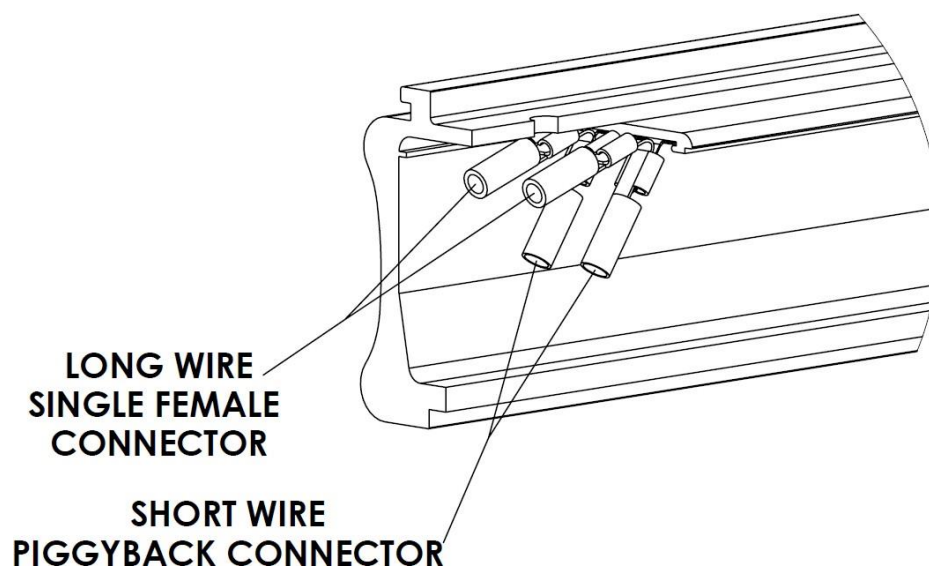

Figure 63: **Long Wire Female Spade Connectors Attached to the Male Terminal of the Piggyback Connector**
10. Connect the long wire female spade connectors to the male terminal of the piggyback connector (Figure 63).